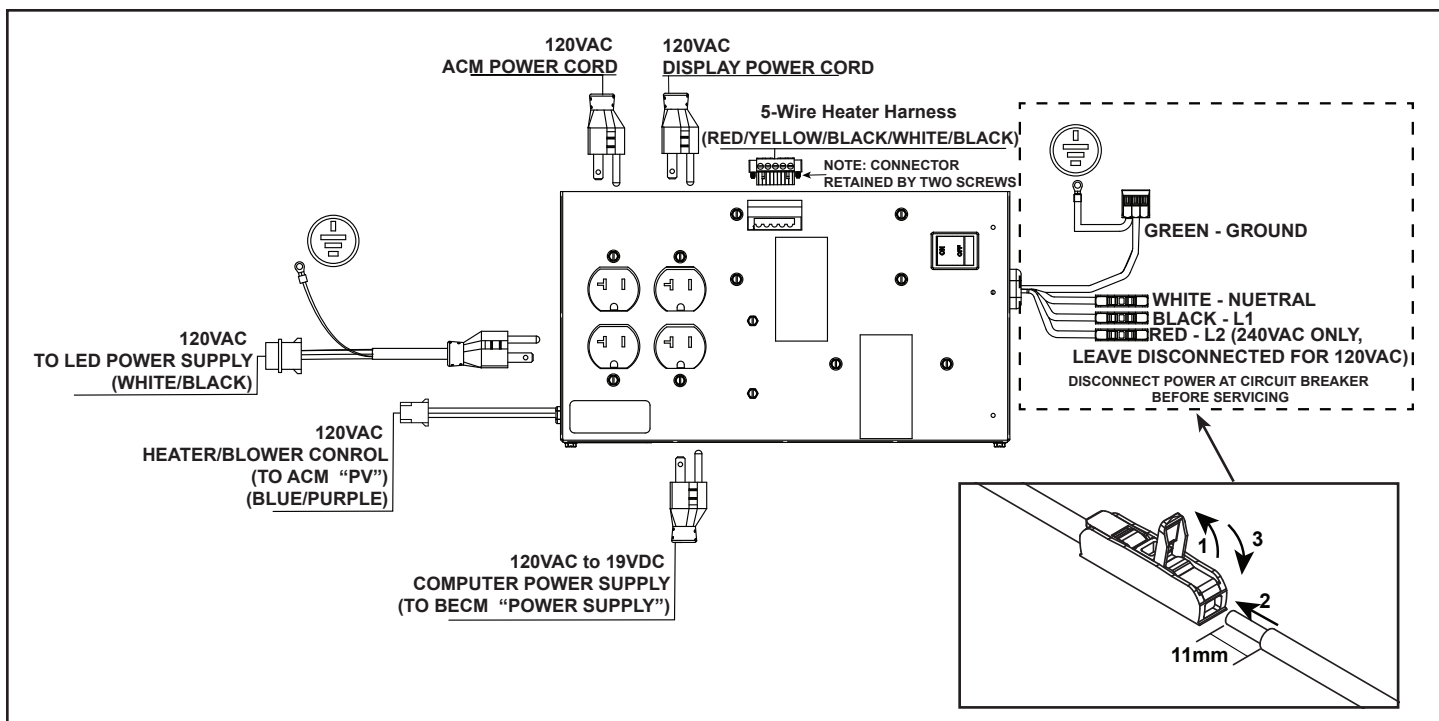

Figure 3.16 Junction Box Wiring
4. Disconnect the AC power input lines from the splice connectors attaching them to the junction box. Flip the splice lever up on the splice connector to release the wire. See Figure 3.16.
11. Reconnect all wires and attachment points in reverse order to install the replacement junction box assembly. See Figure 3.16.